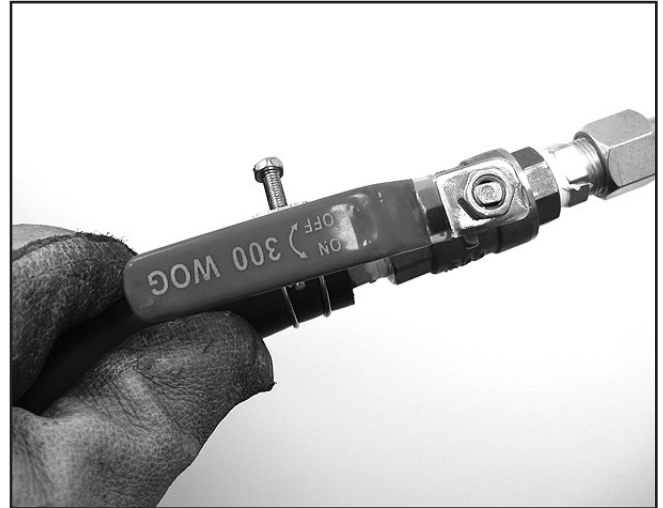

Figure 15. Blast nozzle valve, open.
15. Point the blast nozzle at the workpiece and slowly move the blast nozzle lever (**Figure 15**) to the **ON** or open position. Sand blasting will begin.